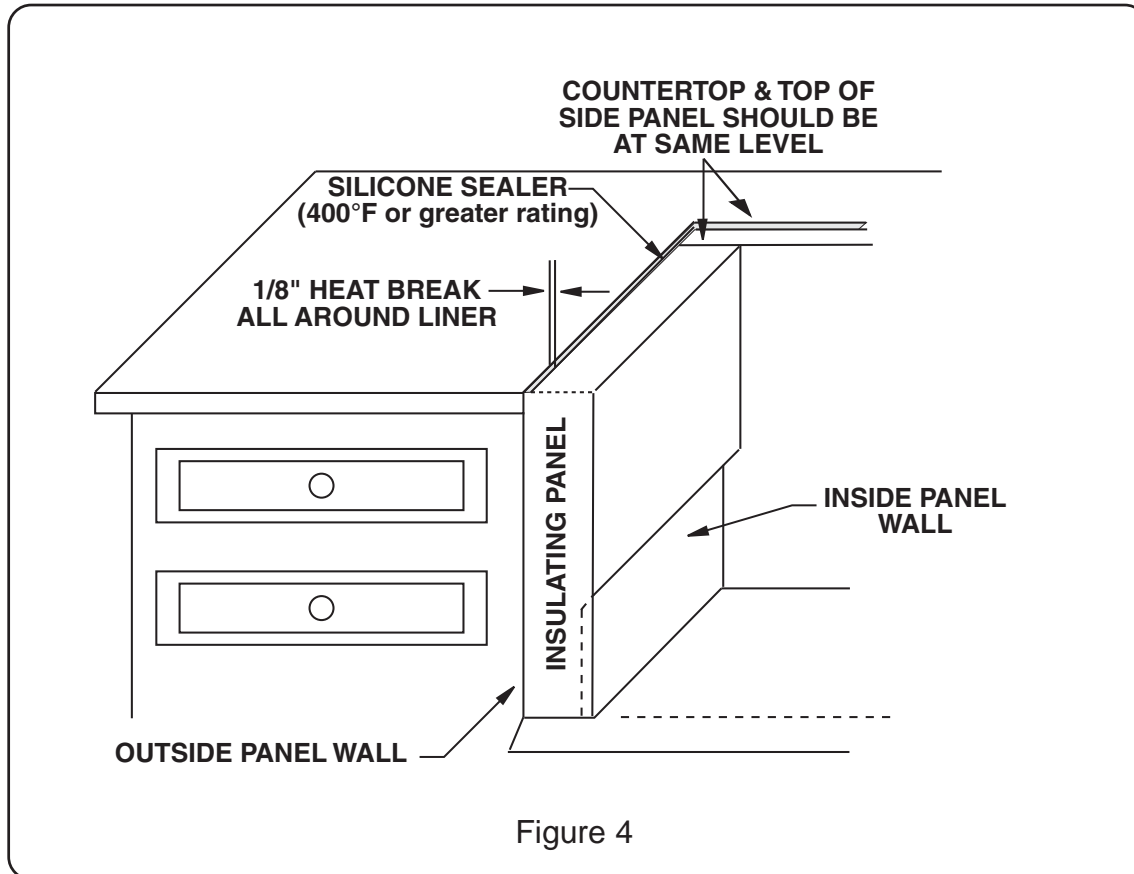

Figure 4
**Countertops and cabinet faces made of combustible material**, such as wood, formica and corian can extend up against the outside walls of the panels and be joined to the metal trim (approximately a 1/8" space) by a bead of silicone sealer rated for 400°F or higher, as in Figure 4. Never build over the insulating box with combustible materials as this will interfere with the hanger which is attached to your slide-in barbecue